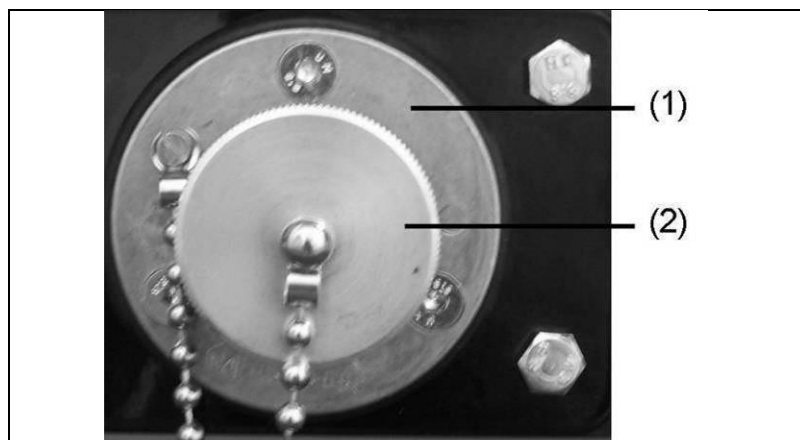

Fig. 5-7: Connecting up the battery charge retention device
1. Unscrew cover (Fig. 5-7-(2)) for socket (Fig. 5-7-(1)) for the starter battery charge conservation device.